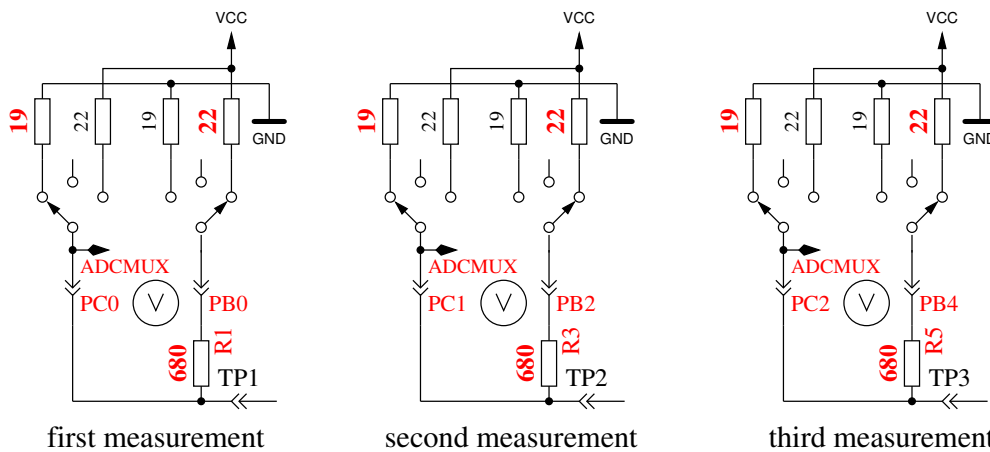

Figure 5.45: Measurement of internal resistance of Port C switched to GND
5. **This step tests the capability of GND (-) connected $470k\Omega$ resistors (H) to pull the test pins to GND.** Row 1 shows the text “RH-”. Row 2 should display zero for all three pins.
6. **This step tests the capability of VCC (+) connected $470k\Omega$ resistors (H) to pull the test pins to VCC (+).** Row 1 shows the text “RH+”. The results are shown als difference to VCC and should be near zero. Great differences from the best value for test 5 and 6 are errors such as isolation problem, flux material or damaged port.
7. **Measuring of internal resistance of pin output switched to the GND signal.** This test and the follwing tests will only be done, if the option AUTO_CAL is selected. The internal resistance of the port C outputs switched to GND (-) are measured with the current of to VCC (+) switched 680Ω resistors, see Figure 5.45. Only the three pins of the ADC port are measured, the resistor port B (PB0,PB2 and PB4) can not be measured without hardware modification. Is is assumed that the port resistance of the different ports are nearly identical. The resistor value will be shown in the next test.